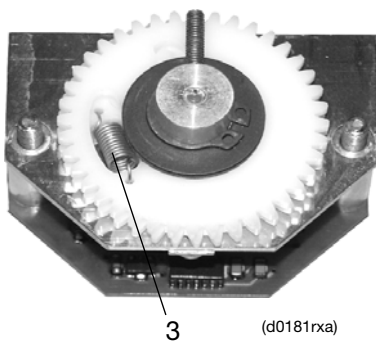

Fig. 23: Position sensor
- set the stop pin to the center position, as seen in figure 23